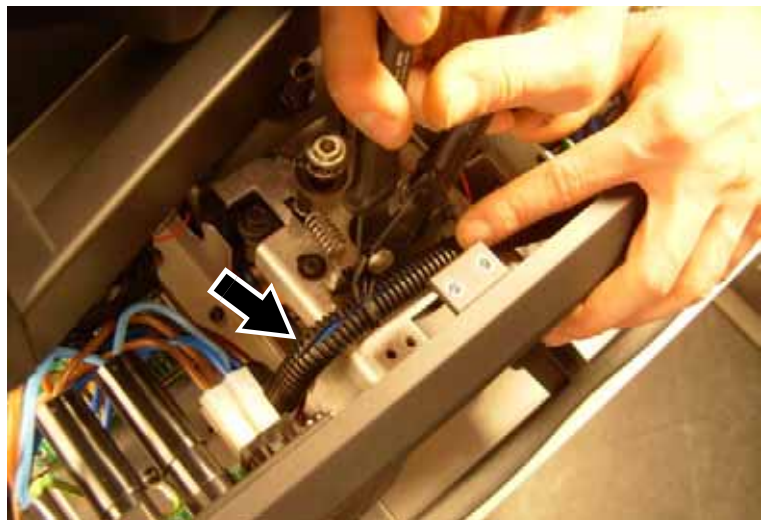

Figure 10
11. See Figure 10. Unlock the pan lock and swing the head around for access, then use a wire-cutter to cut the cable ties and release the ballast wiring harness (arrowed) that runs from the ballast to the main PCB.